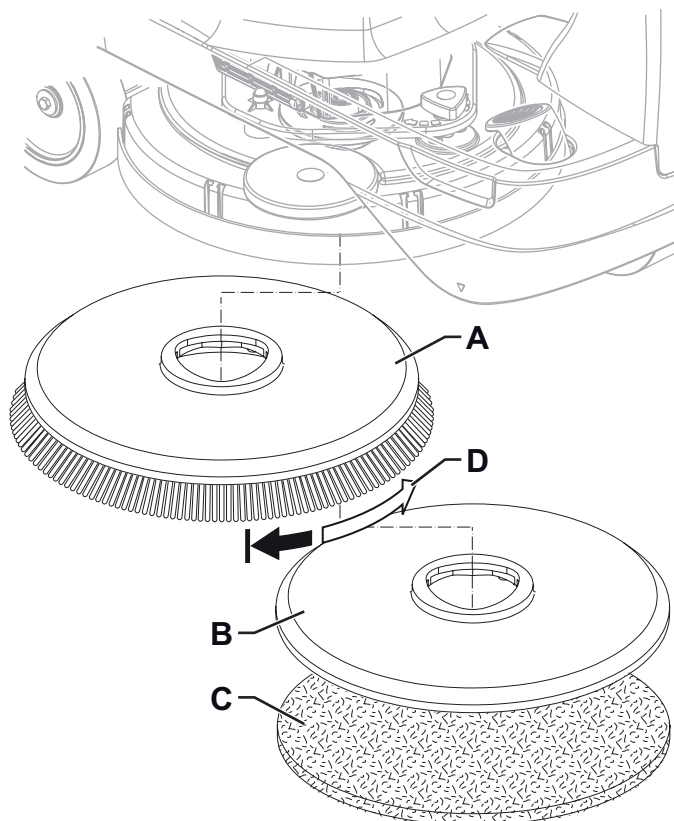

Figure 2
1. According to the kind of cleaning to be performed, the machine can be equipped either with the brush (A, Fig. 2) or the pad-holder (B) with pad (C) together with the appropriate deck.
2. Place the brush (A) or the pad-holder (B) under the deck (7).
3. Turn the ignition key (41) to “I”.
4. Press the push-button (42) to lower the deck on the brush.
5. To engage the brush, press the drive pedal (2) shortly, if necessary repeat the procedure until the brush is engaged.
6. To remove the brush, lift the deck by pressing the push-button (42), then manually release the brush from the hub by turning it abruptly in its normal rotation direction (D).